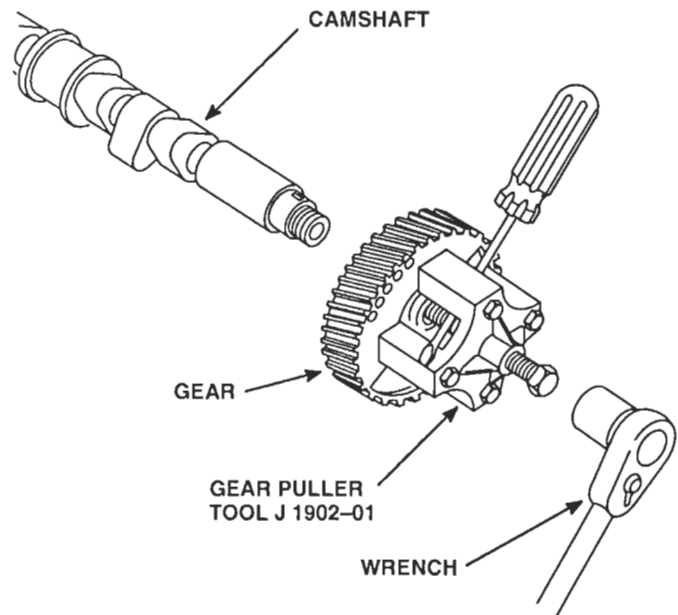

Figure 2. Removing Camshaft or Balance Shaft Gear
4. Back out the puller screw of tool J 1902-01 and attach the puller to the outer face of the gear with four bolts (Figure 2.)